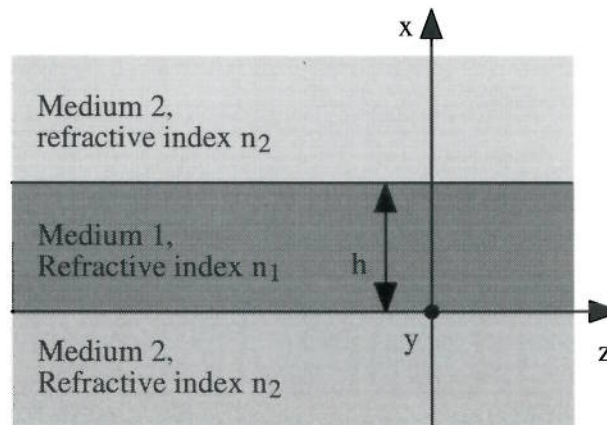

Figure 2.
2. Figure 2 shows a symmetric slab dielectric waveguide, which consists of a layer of refractive index n_1 and thickness h sandwiched between two semi-infinite layers each of refractive index n_2 . For TE modes, solutions can be written as: